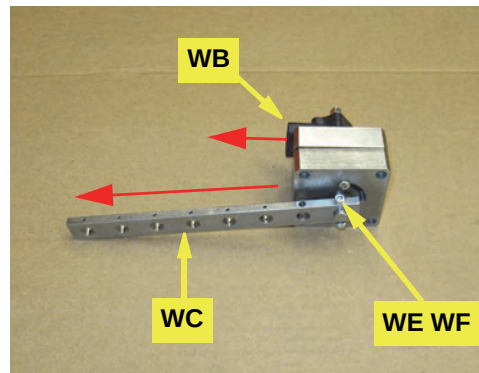

Figure 1c: Attached WAS arm
- c. Attach the WAS arm **WC** to the WAS assembly using hardware **WF** (screw) and **WE** (nut). Mount the arm **WC** in the same direction as the wire connector **WB** (Figure 1c).